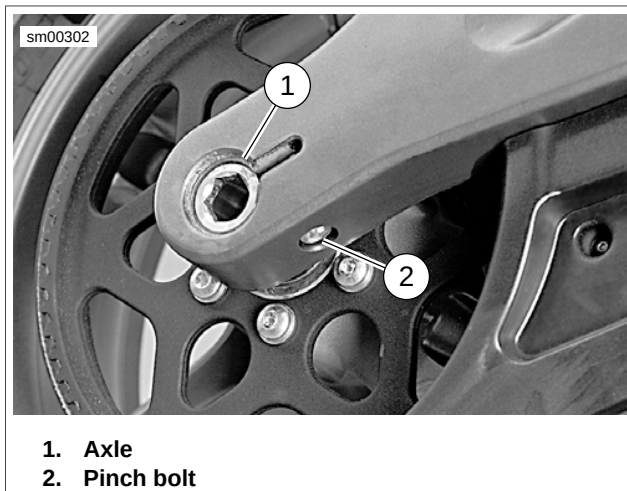

Figure 2-23. Rear Axle
- 3. See Figure 2-23. Loosen rear axle pinch fastener (2).
- 4. Loosen rear axle (1) approximately 15 rotations to allow partial tension to be removed from rear drive system.
7. See Figure 2-23. Tighten rear axle (1) to 23-27 ft-lbs (31.2-36.6 Nm), back off two full turns and then retighten to 48-52 ft-lbs (65.1-70.5 Nm).
8. Tighten pinch fastener (2) on right side of swingarm to 40-45 ft-lbs (54-61 Nm).